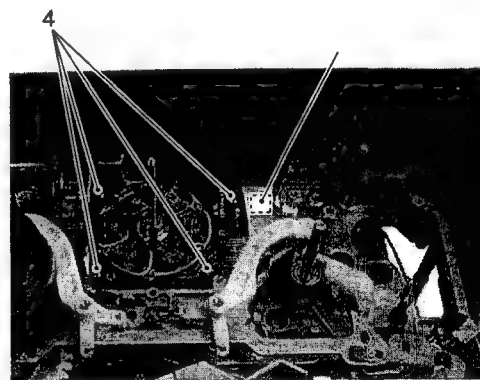

Fig. 2-7-54
4. Remove the four screws 4, then remove the board of the reel motor (the flat wire is fixed by using double-sided adhesive tape) (see Fig. 2-7-54).